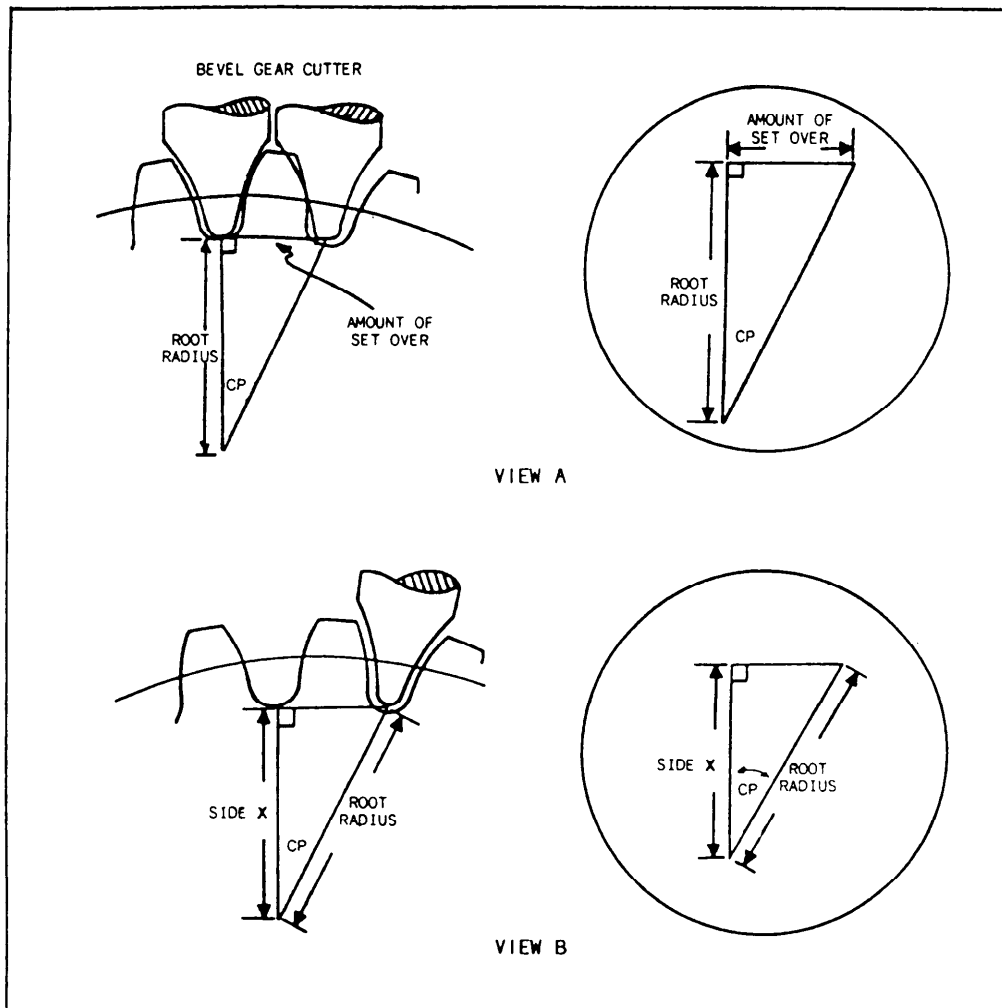

Figure 14-26.—Development of setover and depth increase.
To find the amount of setover, first establish the circular pitch angle ( $\angle_{CP}$ ). One circular pitch equals  $360^\circ$ . Therefore, you can divide  $360^\circ$  (one circular pitch) by the number of teeth (NT) to find the circular pitch angle ( $\angle_{CP}$ ). You can solve for the amount of setover by using the triangle in figure 14-26, view A.
To find the amount of depth increase, set up the triangle shown in figure 14-26, view B. In this triangle, side X is equal to the root radius multiplied by the cosine of the circular pitch angle ( $\angle CP$ ).